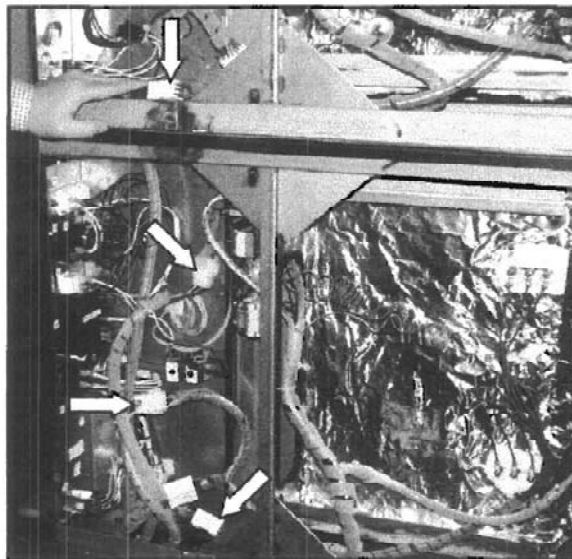

Figure 16 Electrical Wire Harness
8. Disconnect the electrical wire harnesses (J1, J3, J7, and J8) that connect the upper and lower oven section to the oven base section. See Figure 16. Mark connections prior to disconnecting for ease of re-assembly.